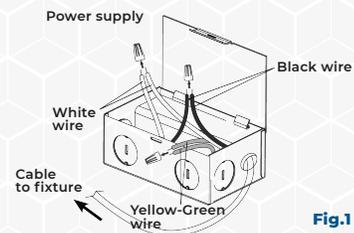

Fig.1
3. Using wire nuts, connect GREEN ground wire of cable to GREEN wire on box. Connect WHITE wire of cable to WHITE wire of box. Connect BLACK wire of cable to BLACK wire of box (**see Fig.1**).